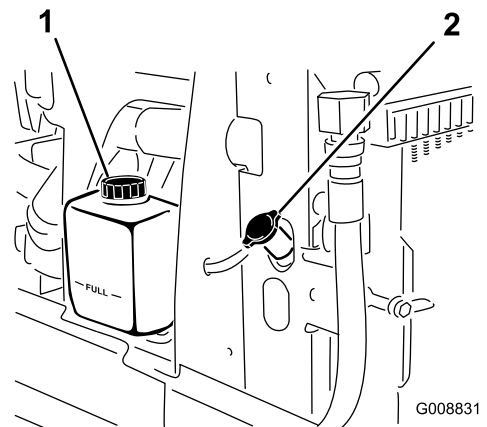

Figure 78
1. Carefully remove the radiator cap and expansion tank cap (Figure 78).